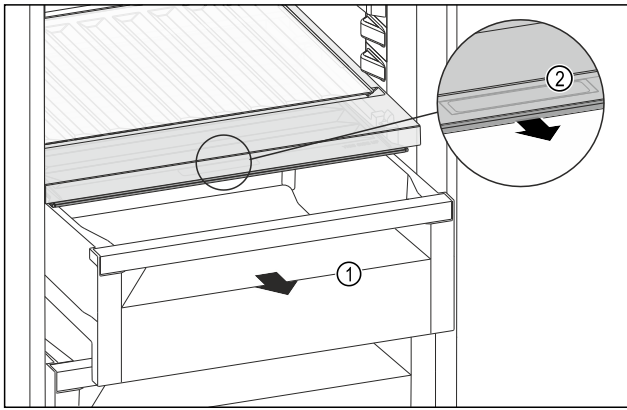

Fig. 186
- ▶ Pull out the drawer Fig. 186 (1).
- ▶ Grasp the recessed grip Fig. 186 (2) on the compartment lid and pull the compartment lid forwards at the same time.